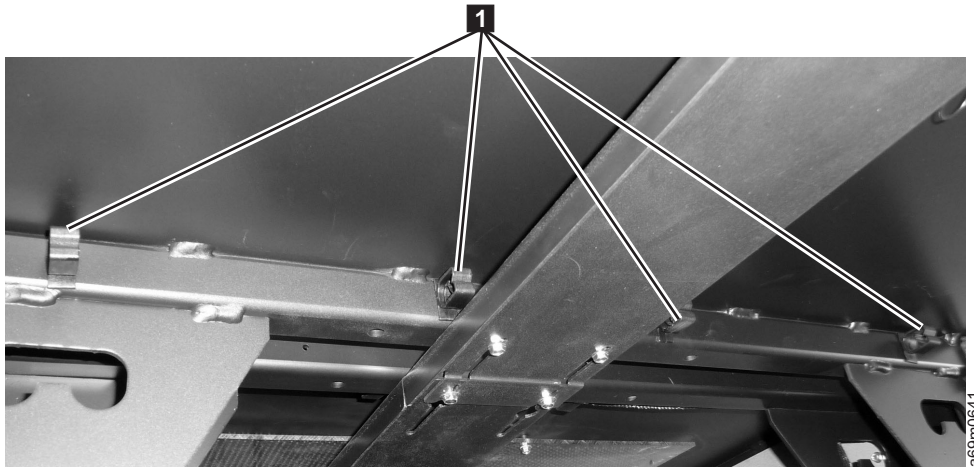

Figure 25. Cable restraint clamps
1. If the camera mount is installed on the front frame support, route the camera cables through the existing frame cable clamps (**1** in Figure 25 on page 114) along the top of the frame. Ensure the cables do not interfere with accessor operation.